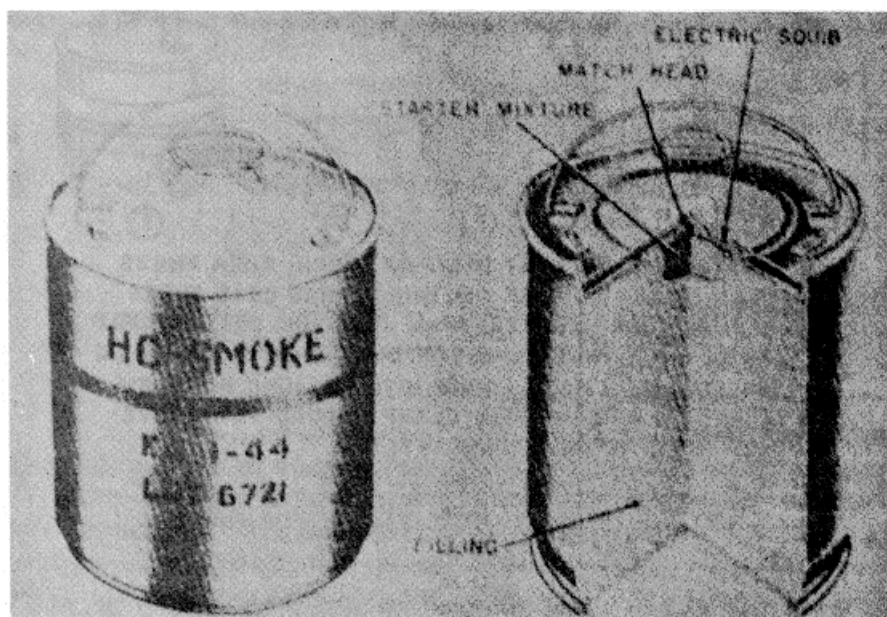

Figure 6. ABC-M5 30-lb. HC smoke pot.
a. *Description.* The ABC-M5 smoke pot (figs: 6 and 7) is a cylindrical sheet-metal container, 8 1/2 inches in diameter by 9 1/2 inches high, filled with approximately 30 pounds of type C HC smoke mixture and 1 pound of fast-burning smoke mixture. The bottom of the container is tapered to a diameter of 8 1/4 inches to permit stable stacking. The pot is covered by a non-removable outer cover with a circular tear strip. Two binding posts, which are mounted on the outer cover, are connected internally by two lead wires to two electric squibs. A carrying handle is mounted on the outer cover. An inner cover with a